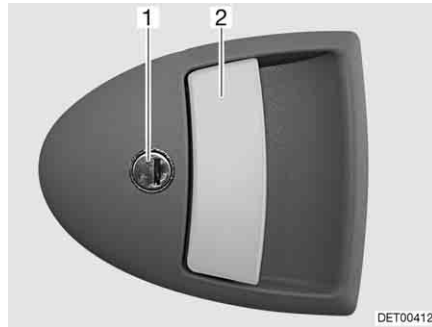

Fig. 27 Door lock of conversion door, outside
- Insert the key into locking cylinder (Fig. 27,1) and turn until the door lock is unlatched.
- Pull on the handle (Fig. 27,2). The door is open.
- Insert the key into locking cylinder (Fig. 27,1) and turn until the door lock is engaged.